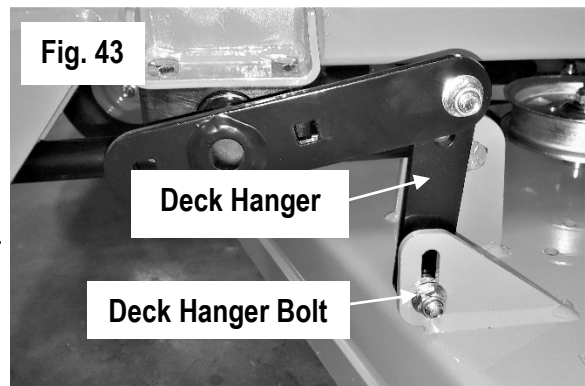

Fig. 43
4. Using a pair of $\frac{9}{16}$ " wrenches, loosen all deck hanger bolts on the top of the deck. These are the lower bolts in the slots of the deck as shown in Fig. 43. Do not loosen the upper bolts that attach the deck hangers to the actuator lift bars.